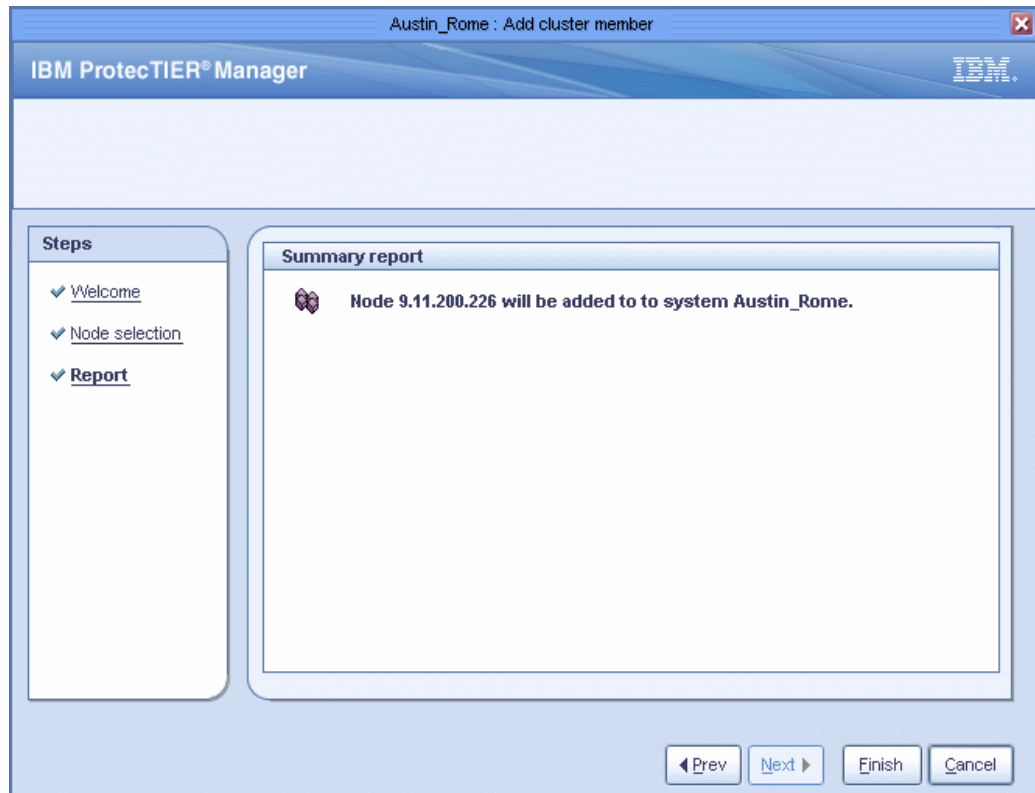

Figure 10-80 Add cluster member: Report window
4. After successful validation of the node IP, the Report window opens (Figure 10-80).